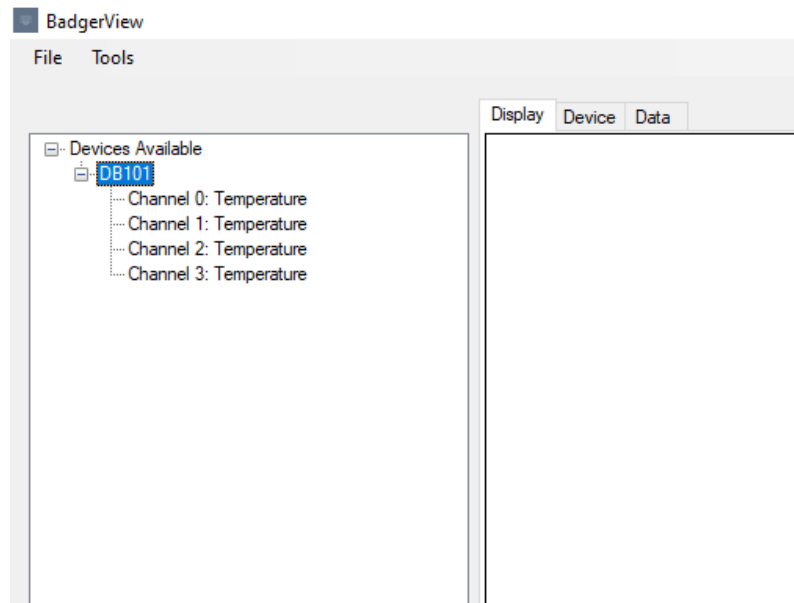

Figure 3: Data channels available
7. Left click the + symbol to the left of the device name to show the data channels associated with the device. Figure 3 shows that the DB101 device has four temperature measurement channels available. Channels 0 and 1 are thermocouple measurement channels and channels 2 and 3 are the device cold junction temperature for each thermocouple channel.